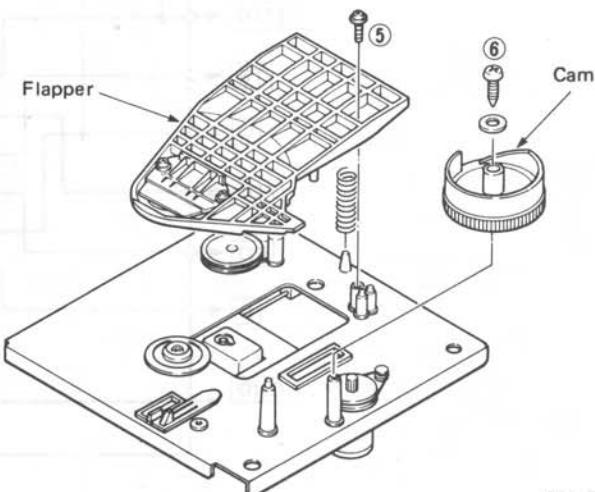

Fig. 5
Loosen screw (⑤) fixing Flapper in fig. 5 and then remove the Flapper.
Remove screw (⑥) in fig. 5 and then pull up the Cam.